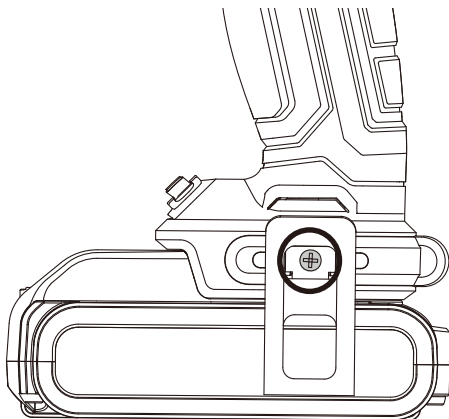

Figure 4
4. USING BELT CLIP (SEE FIG. 4)